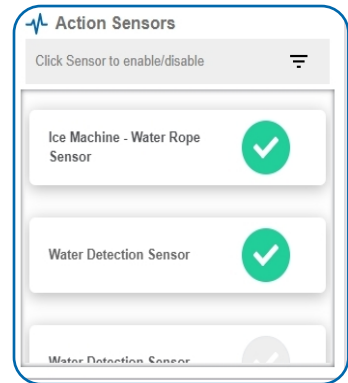

Figure 18
- By default, the sensor(s) will not be assigned to the Action conditions you've just set. To assign a sensor, find the device(s) you want to designate for this Action and select. Selected sensor boxes will turn **green** when activated. Choose the sensor box again to unassign the sensor from the Action. See Figure 18.